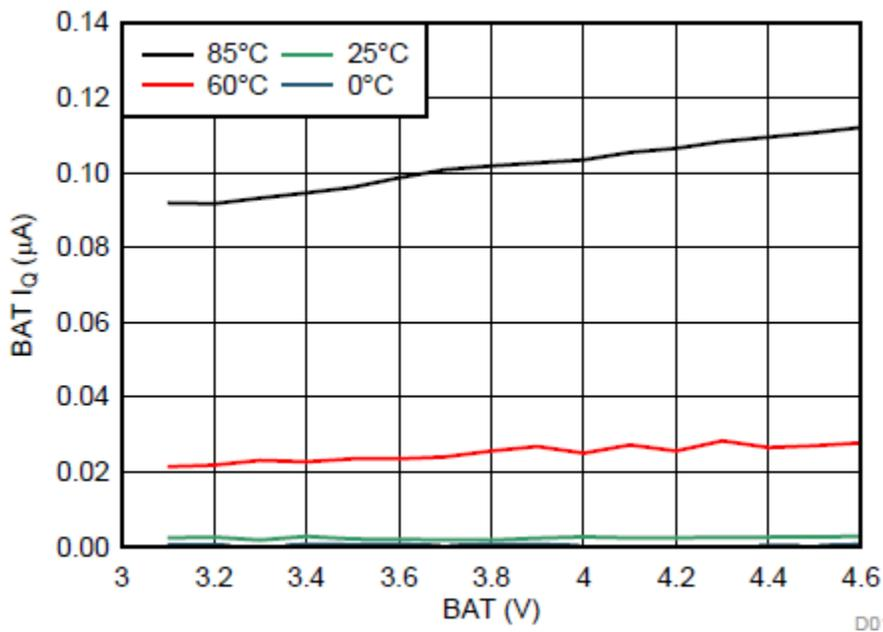

Figure 12. Ship Mode BAT, I_q
- Figure 12 shows the battery leakage current in ship mode.